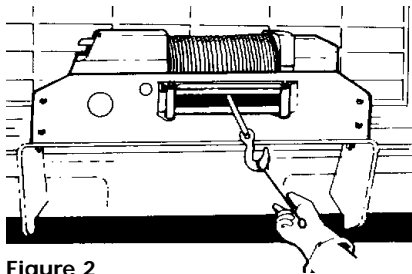

Figure 2
- KEEP CLEAR OF WIRE ROPE AND HOOK WHEN OPERATING WINCH. NEVER put your fingers through the hook when reeling in or out the last few feet of rope. If your finger should become trapped in the hook, you could lose your finger. Use the HANDSAVER BAR (Figure 2) to guide the hook within the last few feet. Never guide a wire rope onto or off the drum with your hand.
- Your Husky 8500 winch wire rope has a ten-foot red "safety stripe" on each end. The "safety stripe" at the end of the wire rope that attaches to the drum warns you that the wire rope is almost completely paid out. DO NOT use the winch for this last ten feet of wire rope since the wire rope end fastener will NOT support a heavy load. The "safety stripe" at the hook end of the wire rope warns you that the wire rope is almost rewound. ALWAYS USE THE HANDSAVER BAR when handling the hook (Figure 2). As you use your winch, the red paint will wear off due to normal wear. When this happens, you should renew the red paint as it is a safety feature of the winch.